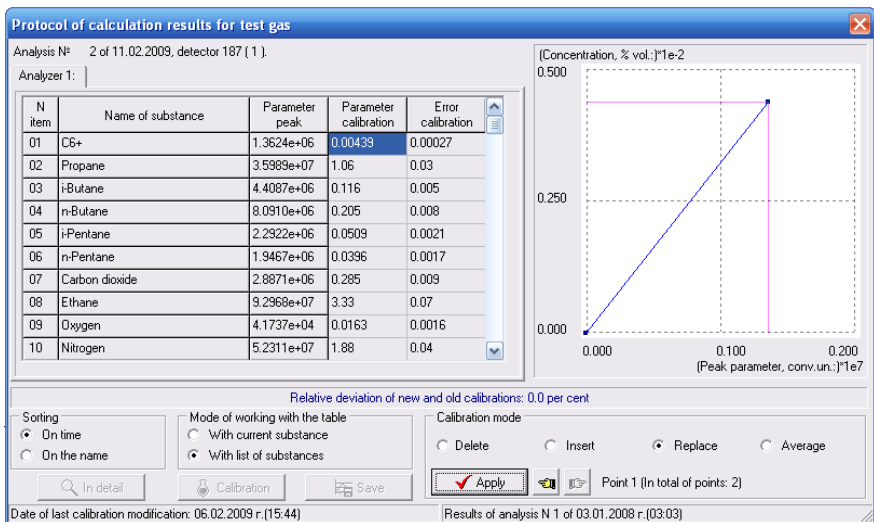

Figure 3.10.
- the  button on the *Additional toolbox 2*, and after this, the «*Protocol of calculation results for test gas*» (see Fig.3.10) dialog box is activated.